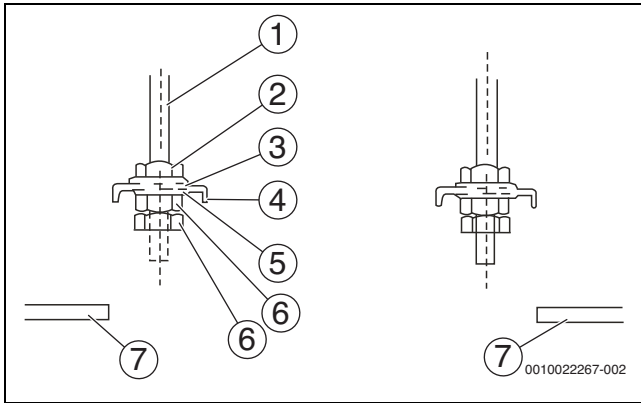

Fig. 15
1. Adjust the positions of the nuts. The size of the gap between the washer (bottom) and the ceiling should be based on the actual construction works (→ figure 15).